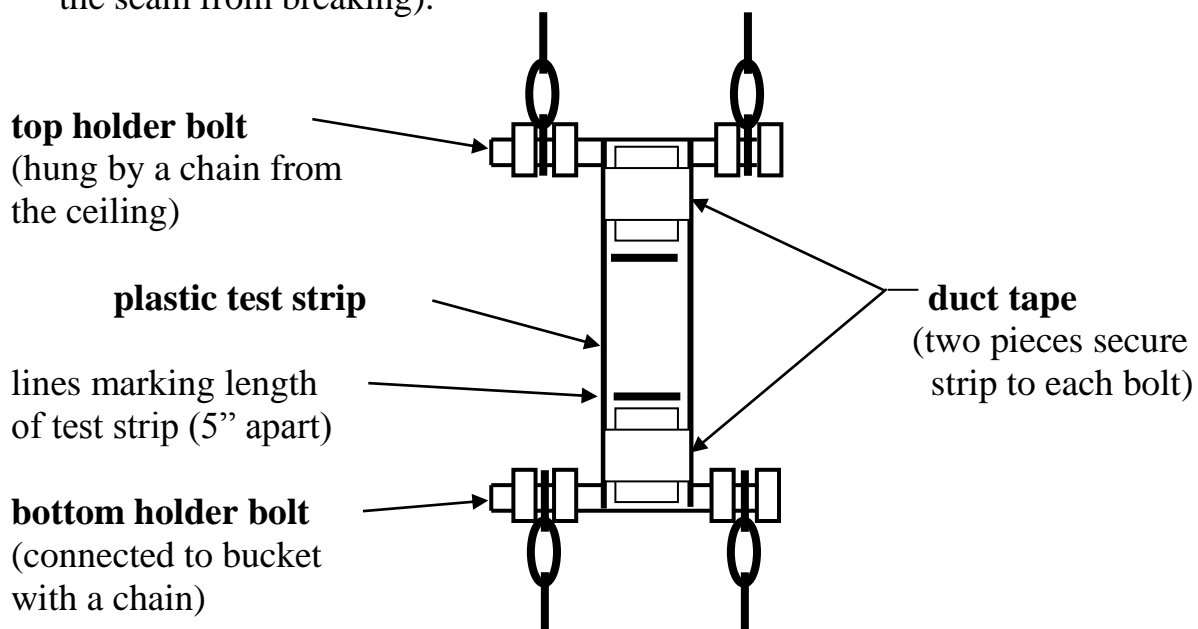

Figure 1: Mounting a Test Strip in the Test Fixture
- 3) With a marker, draw two lines on your test strip (see Figure 1) that are 5” apart (the lines must not be on the duct tape). These lines mark the initial length of your test strip. The ends of the strip that are covered with duct tape don’t count as part of the test length because the duct tape adds strength to the material.
- 5) Place your team’s test strip in the testing device as shown: Tape a strip into the test fixture (see Figure 1). For each end, you will fold 3” of the strip over the bolt, and then place a 4” piece of duct tape vertically across the seam. Place another 5” piece of duct tape horizontally across the seam and fold it over to the other side of the test strip (it is important to tape in both directions to prevent the seam from breaking).